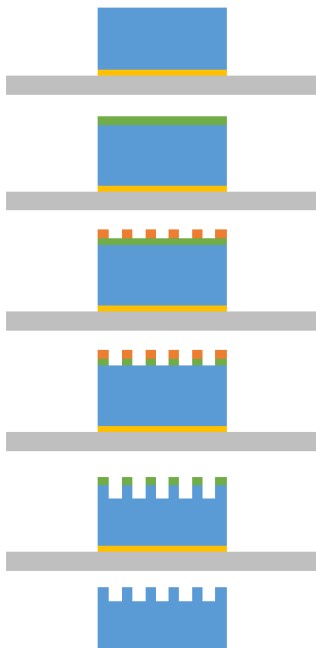

Fig. 1: Schematic representation of a possible fabrication process
- Propose a detailed process flow for the diamond micro-lenses using the CMi template (including the tools to be used for the individual process steps), see also Fig. 1.